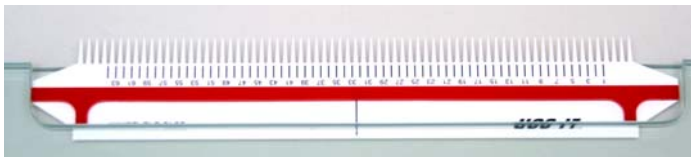

Figure 2-8. Center the comb in the notch and insert the sharktooth comb upside down until the plastic depth gauge rests on top of the notch.
4. Insert the comb. Figures 2-8 and 2-9 show how to insert the mylar sharktooth and rectangular tooth combs after pouring the gel. The sharktooth comb is inserted upside down during polymerization to make a trough which forms the base of the wells, and is then inverted before loading the samples.